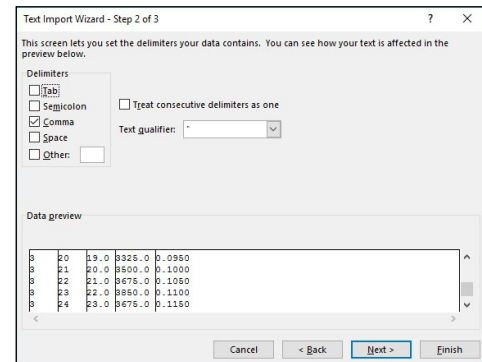

Figure 13: Text Import Wizard Step 2-3
1. Open spreadsheet application. Click **File > Open > Browse** to locate the test file(s). In the bottom right corner of the file explorer (Figure 13) select **All Files** from the drop-down menu.